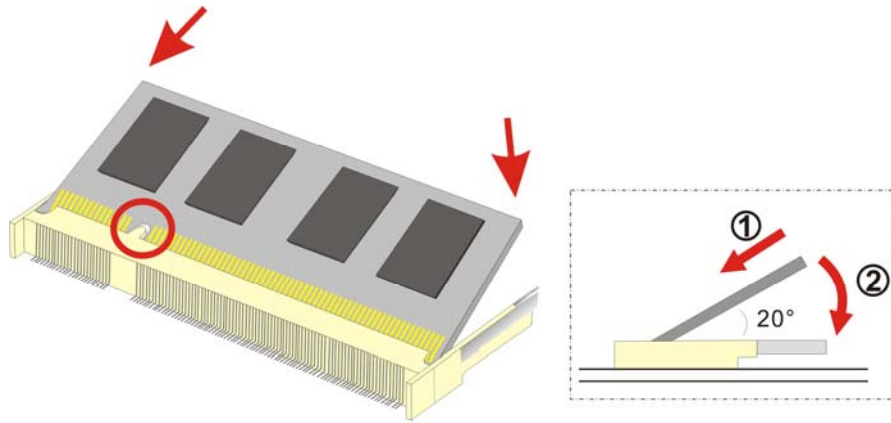

Figure 4-5: DDR SO-DIMM Module Installation
- Step 6:** Install the new DDR memory module by pushing it into the socket at an angle (**Figure 4-5**).
- Step 7:** Gently pull the spring retainer clips of the SO-DIMM socket out and push the rear of the DDR memory module down (**Figure 4-5**).